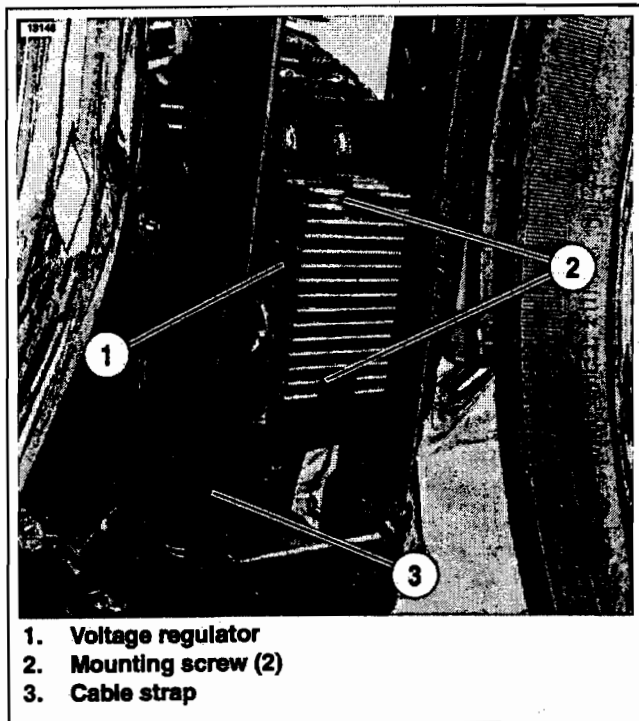
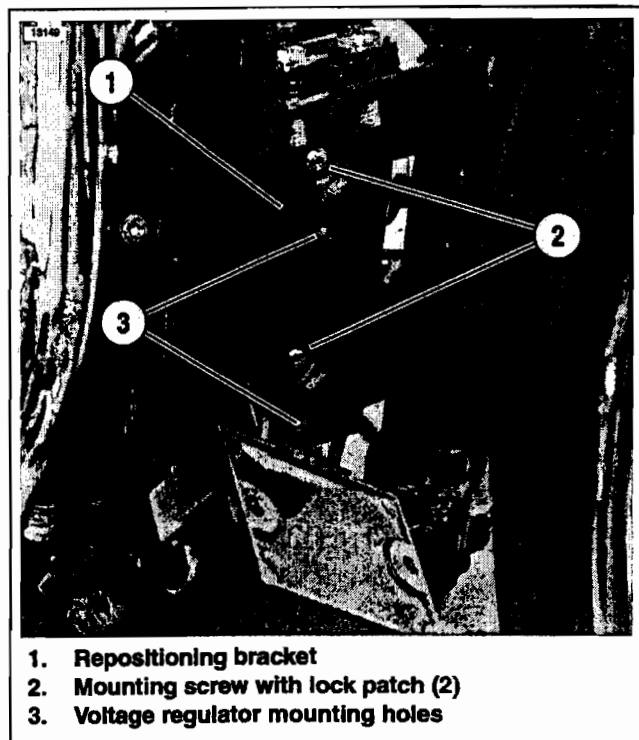

Figure 2. Unbolt and Remove Voltage Regulator
Figure 3. Mount Repositioning Bracket
4. See Figure 2. Cut cable strap (3) that secures stator harness and neutral switch wire to vehicle frame.
5. Remove two screws (2) and voltage regulator (1) from voltage regulator bracket on vehicle frame. Discard mounting screws. They will not be reused. Position voltage regulator to the side, out of the way.
6. See Figure 3. Mount repositioning bracket (1) onto original voltage regulator bracket on frame with two **new** screws (2) from recall kit. Make sure repositioning bracket is oriented as shown in the photo, so that voltage regulator mounting holes (3) are below repositioning bracket mounting holes. Tighten screws to 30-60 in-lbs (3.4-6.8 Nm).